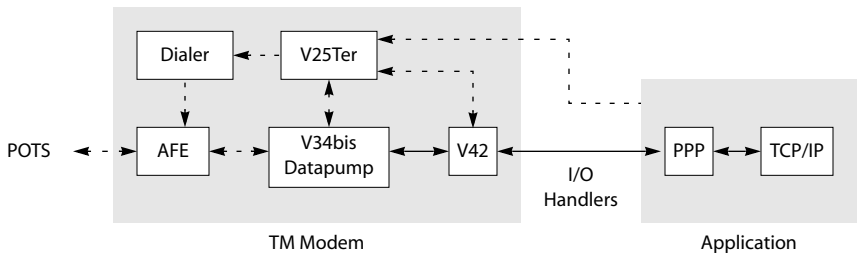

Figure 1 Structure of TM Modem
- **V34bis Datapump.** Implements all the modules for V34/V34bis functionality, including modulation, demodulation, equalization and echo cancellation. The V34bis datapump interfaces with the AFE through internal interrupt service routines (ISRs). The V34bis datapump described in Figure 1 has V32/V22 functionality to keep backward compatibility with previous ITU modem standards.
Figure 1 illustrates these modules. The solid arrows represent data flow and the dashed arrows represent control signals.
An application, such as a TCP/IP stack over PPP, can be implemented with the use of the TM V34 softmodem API, as shown in Figure 1. The application interfaces with the modem, using AT commands, by calling an API function that sends commands to the V25Ter module. The V25Ter module interacts with the V34bis Datapump, dialer and V42 module to change mode settings and to handle dialing and answering. I/O handlers supplied by the application perform the data transfer between the application and the V34 modem.